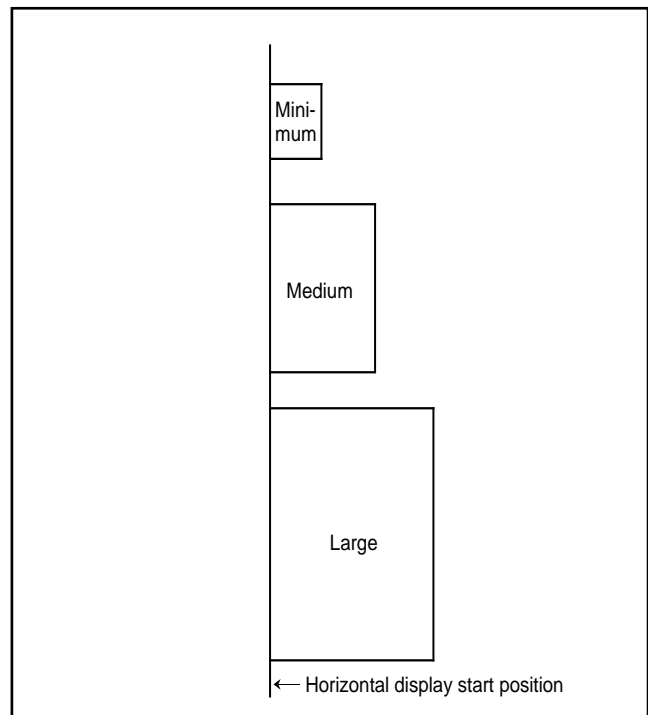

Fig. 31. Display start position of each character size (horizontal direction)
**Note:** The display start position in the horizontal direction is not affected by the character size. In other words, the horizontal display start position is common to all blocks even when the character size varies with each block (refer to Figure 31).
**(4) Memory for Display**